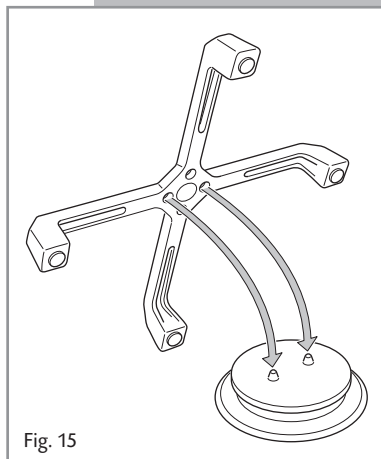

Fig. 15
- The pan supports shall be correctly positioned as indicated in fig. 15. The pan supports shall be level and must not rotate.